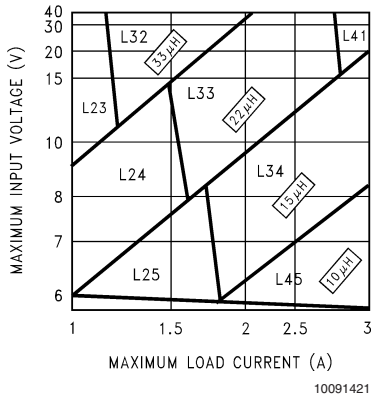
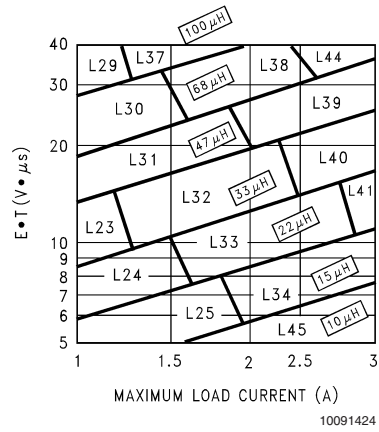

FIGURE 3. LM2676-3.3
FIGURE 6. LM2676-ADJ
**Step 3:** Determine the inductor required by using one of the four nomographs, *Figure 3* through *Figure 6*. Table 1 provides a specific manufacturer and part number for the inductor.
**Step 5:** Determine an input capacitor from Table 4 for fixed output voltage applications. Use Table 2 to find the specific capacitor type. For adjustable output circuits select a capacitor from Table 2 with a sufficient working voltage (WV) rating greater than  $V_{in\ max}$ , and an rms current rating greater than one-half the maximum load current (2 or more capacitors in parallel may be required).
**Step 3:** Use the nomograph for the 3.3V device, *Figure 3*. The intersection of the 16V horizontal line ( $V_{in\ max}$ ) and the 2.5A vertical line ( $I_{load\ max}$ ) indicates that L33, a 22 $\mu\text{H}$  inductor, is required.
**Step 3:** To use the nomograph for the adjustable device, Figure 6, requires a calculation of the inductor Volt•microsecond constant (E•T expressed in V• $\mu$ S) from the following formula:
Using Figure 6, the intersection of 27V• $\mu$ S horizontally and the 2A vertical line (Iload max) indicates that L38, a 68 $\mu$ H inductor, should be used.
**Important Note:** When using the adjustable device in low voltage applications (less than 3V output), if the nomograph, Figure 6, selects an inductance of 22 $\mu$ H or less, Table 6 does not provide an output capacitor solution. With these conditions the number of output capacitors required for stable operation becomes impractical. It is recommended to use either a 33 $\mu$ H or 47 $\mu$ H inductor and the output capacitors from Table 6.